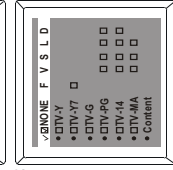

Fig.2
- In Fig.2, you can see the sub-rating setup situation. No tick in the frame under F, V, S, L, D, which means <unblock> or <view>.